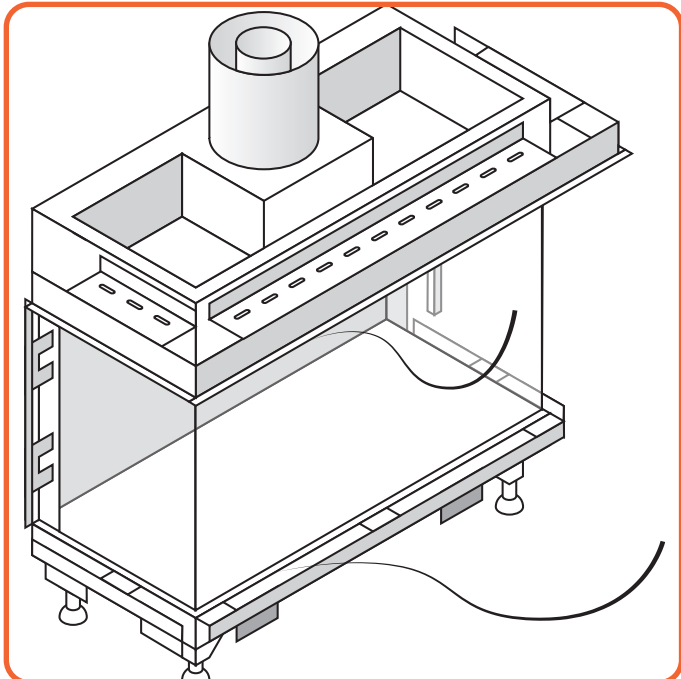

Figure 9.4 | Remove Glass ropes
- Put the section cup on the glass and make sure it is properly vacuumed, so it will not come off. (See Figure 9.4)